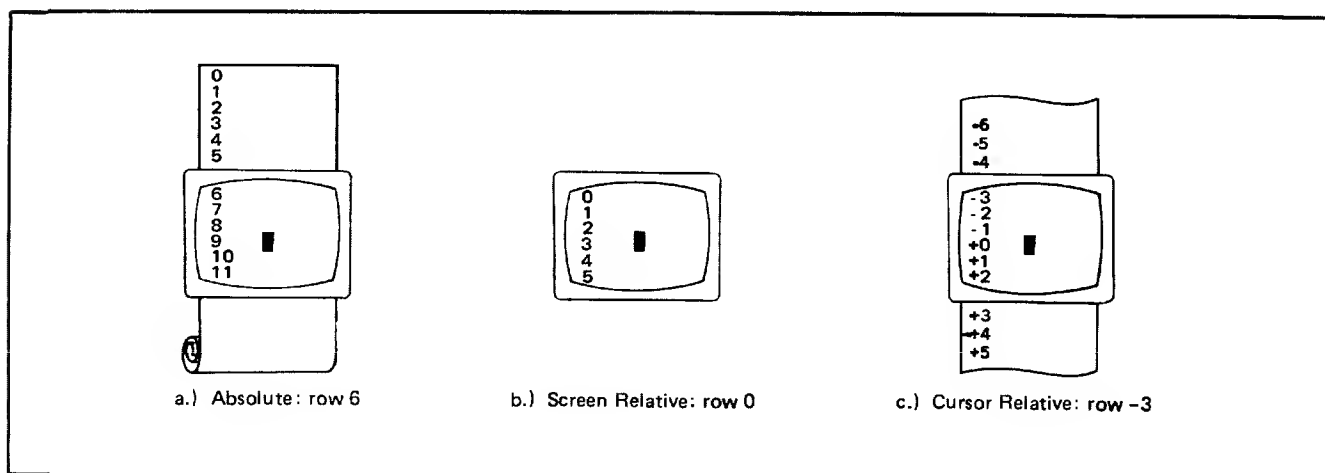

Figure 4-3. Row Addressing
**ROW ADDRESSING.** Figure 4-3 illustrates the way the three types of addressing affect row or line numbers. The cursor is shown positioned in the fourth row on the screen. Screen row 0 is currently at row 6 of display memory. In order to reposition the cursor to the first line of the screen the following three destination rows could be used: